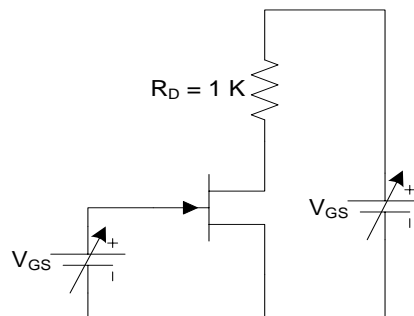

Figure 8.1: Experimental Circuit.
1. Arrange the circuit shown in figure 8.1.